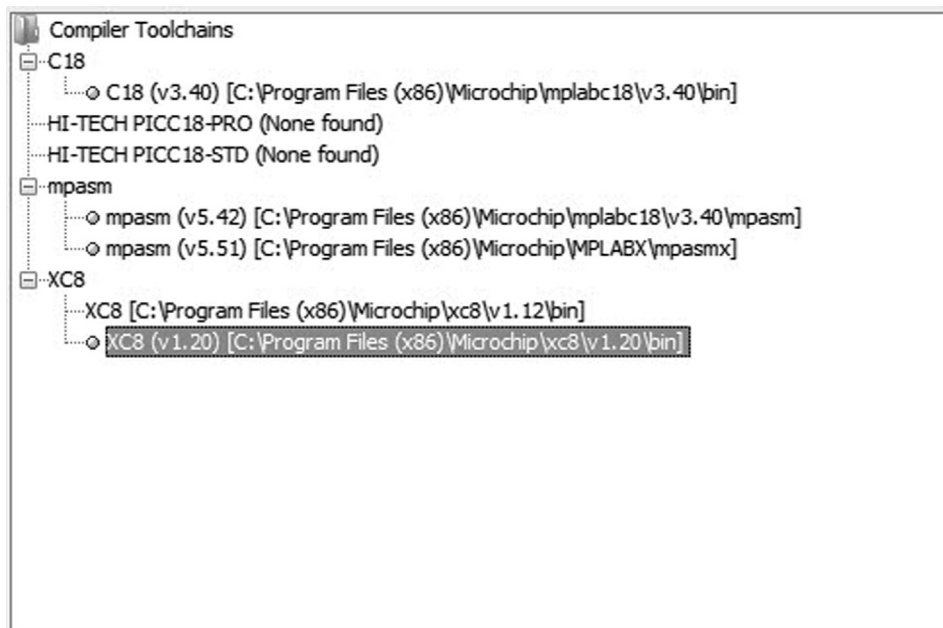

Figure 3.7: Select XC8 Compiler.
Step 5. Click Next. Select compiler XC8 as in Figure 3.7.